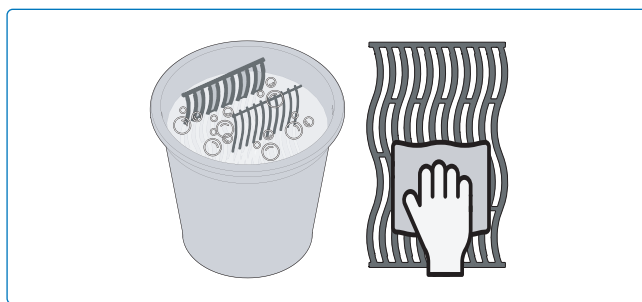

Fig. 20
2. Rinse with hot water and dry thoroughly with a soft cloth to prevent rust (**Fig 20**).